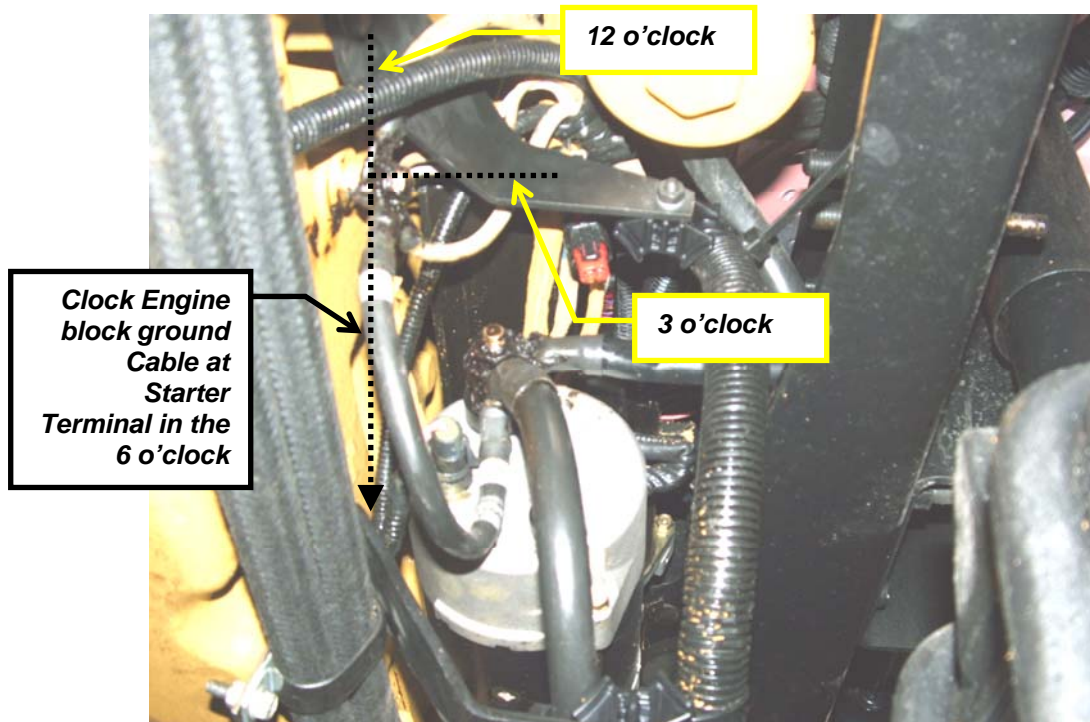

Figure 30 – Correct engine block ground cable routing.
TO PREVENT CHAFING OF THE POSITIVE CABLES AGAINST THE ENGINE BLOCK GROUND CABLE (SEE FIGURE 29), PLEASE ENSURE ENGINE BLOCK GROUND CABLE IS CLOCKED IN THE DOWNWARD (6 O'CLOCK) POSITION, SEE FIGURE 30.
- ***If contact or chafing of the ENGINE GROUND cable against the Battery Cables is present***, rotate and tighten the ground cable on the starter terminal so it is straight down (6 o'clock position) and *not* contacting the starter positive cables, see figure 30.